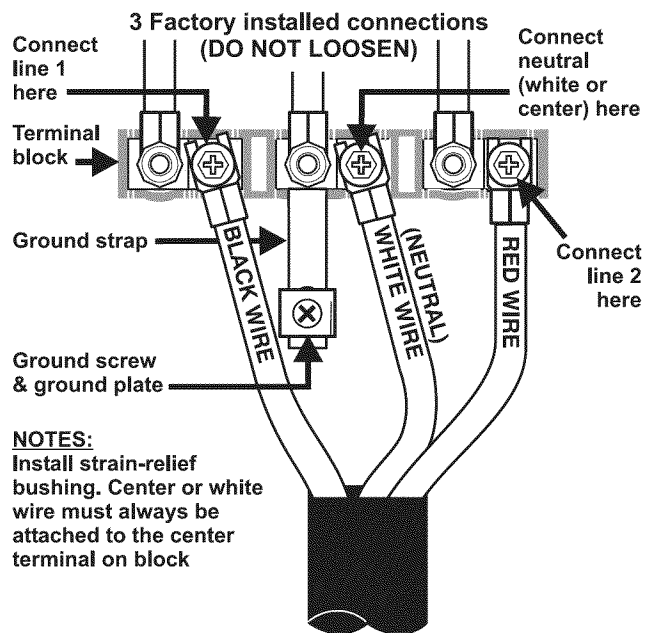

Fig. 30
2. Insert the end connectors for Line 1, Line 2 and Neutral and tighten securely to the terminal block (See Fig. 30). **IMPORTANT NOTE: DO NOT LOOSEN** the factory installed nut connections which secure the range wiring to the terminal block. Electrical failure or loss of electrical connection may occur if these 3 nuts are loosened or removed.
A ground strap is installed on this range which connects the center terminal of the terminal block (neutral) to the range chassis. The ground strap is connected to the range by the center, lowest screw (See Fig. 30). The ground strap must not be removed unless national or local codes do not permit use of ground strap.